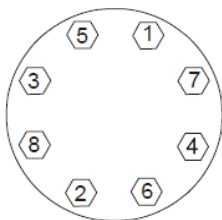

Figure 2 Bolt tightening sequence
6. Tighten the flange bolts according to the sequence in Figure 2.